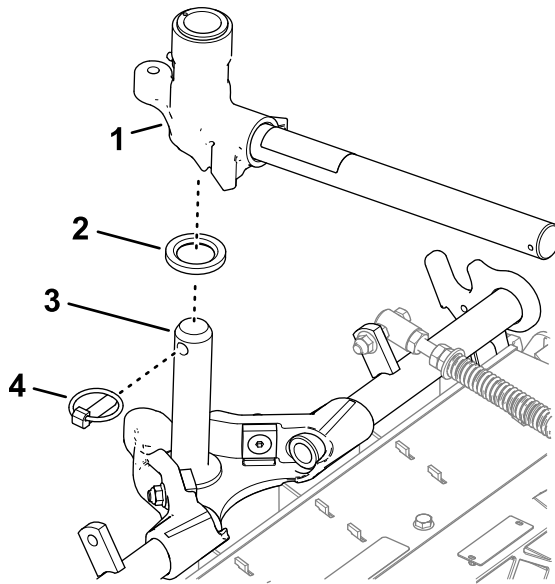

Figure 29
2. Insert the lift-arm yoke onto the carrier frame shaft (**Figure 29**).